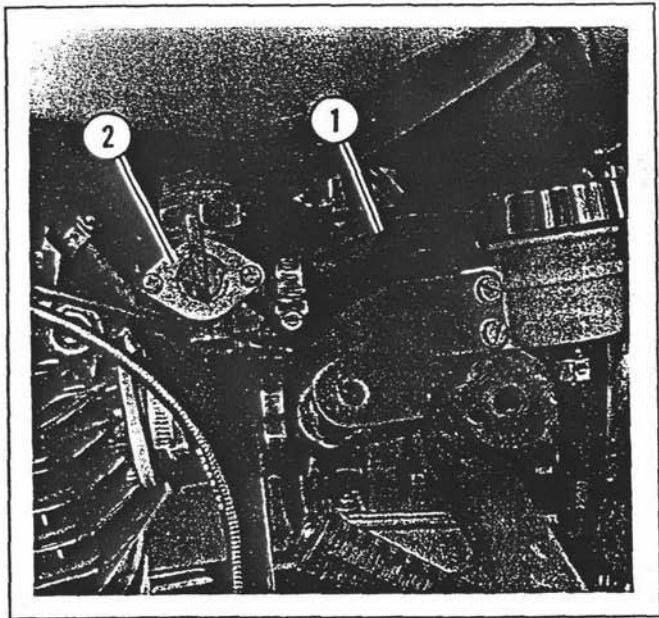

Figure 4-4. Fuel Supply Hose
- Step 3. See Figure 4-4. Check condition of fuel supply hose (1). Be sure it is connected to the control valve (2) and to the carburetor. If hose is cracked or leaking, refer to *Service Manual* for replacement procedure.